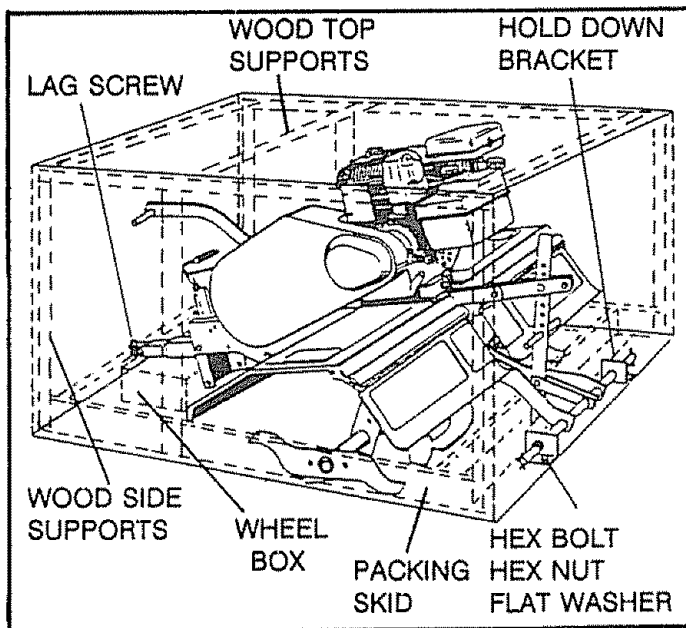

FIG. 1
- Cut from top to bottom all four corners of the carton and lay panels flat. (See Fig 1)